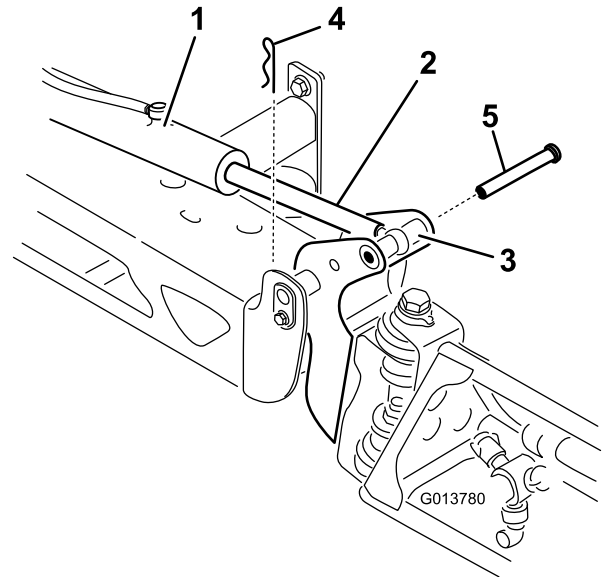

Figure 119
2. Remove the cotter pin from the pivot pin (Figure 119).
3. Lift up on the boom and remove the pin (Figure 119), and slowly lower the boom to the ground.
- While holding the boom, insert the pin through both boom pivot and rod end (Figure 119).